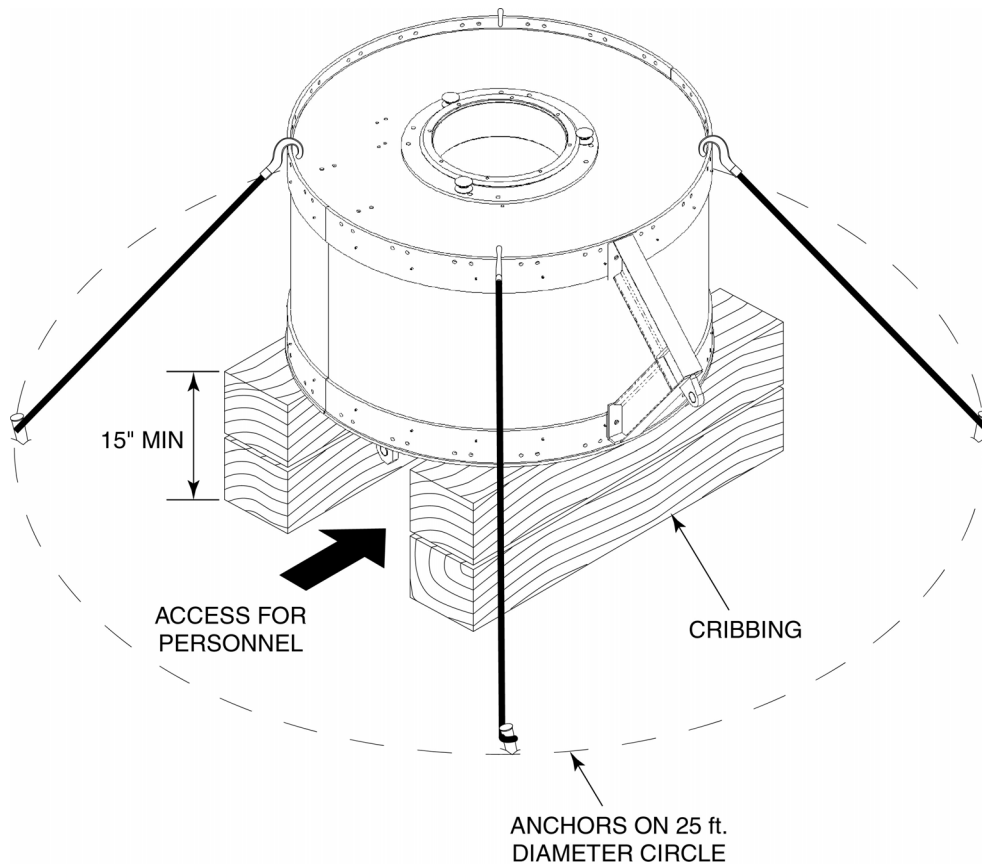

Figure 3. Secured Hub
- Step 1.** Position the hub assembly on cribbing 15" high minimum. Cribbing should provide a stable platform for building the reflector. If stacked smaller boards are used, they should be secured to each other using wood screws or nails (see Figure 3).
- Step 2.** Secure the hub to the ground using straps and ground anchors as a precaution against the reflector being overturned by wind during assembly. Hooks may be placed over the upper lip of the hub as shown in Figure 3. Straps should be placed in locations on the hub so as not to interfere with radial beam installation.